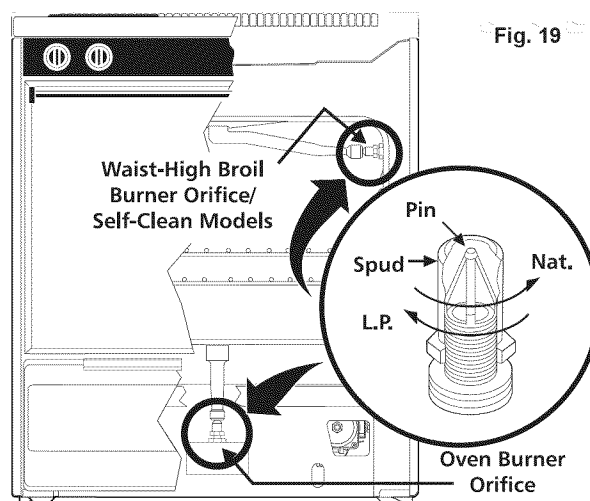

Fig. 19
- Insert a thin-bladed screwdriver into the hollow valve stem and engage the slotted screw inside. Flame size can be increased or decreased with the turn of the screw. Turn counterclockwise to increase flame size. Turn clockwise to decrease flame size. (See Figs. 19 & 20).